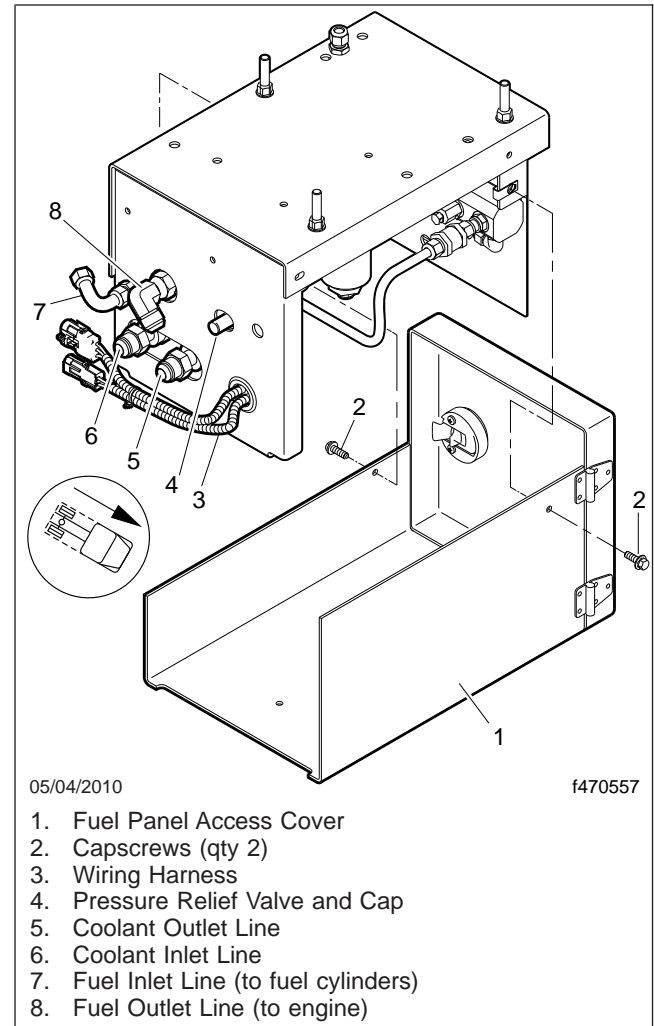

Fig. 21.16, CNG Fuel Panel Assembly
- 2.3 Remove the two capscrews that secure the access cover to the fuel panel, then remove the access cover. See Fig. 21.16. Save the capscrews for installation.